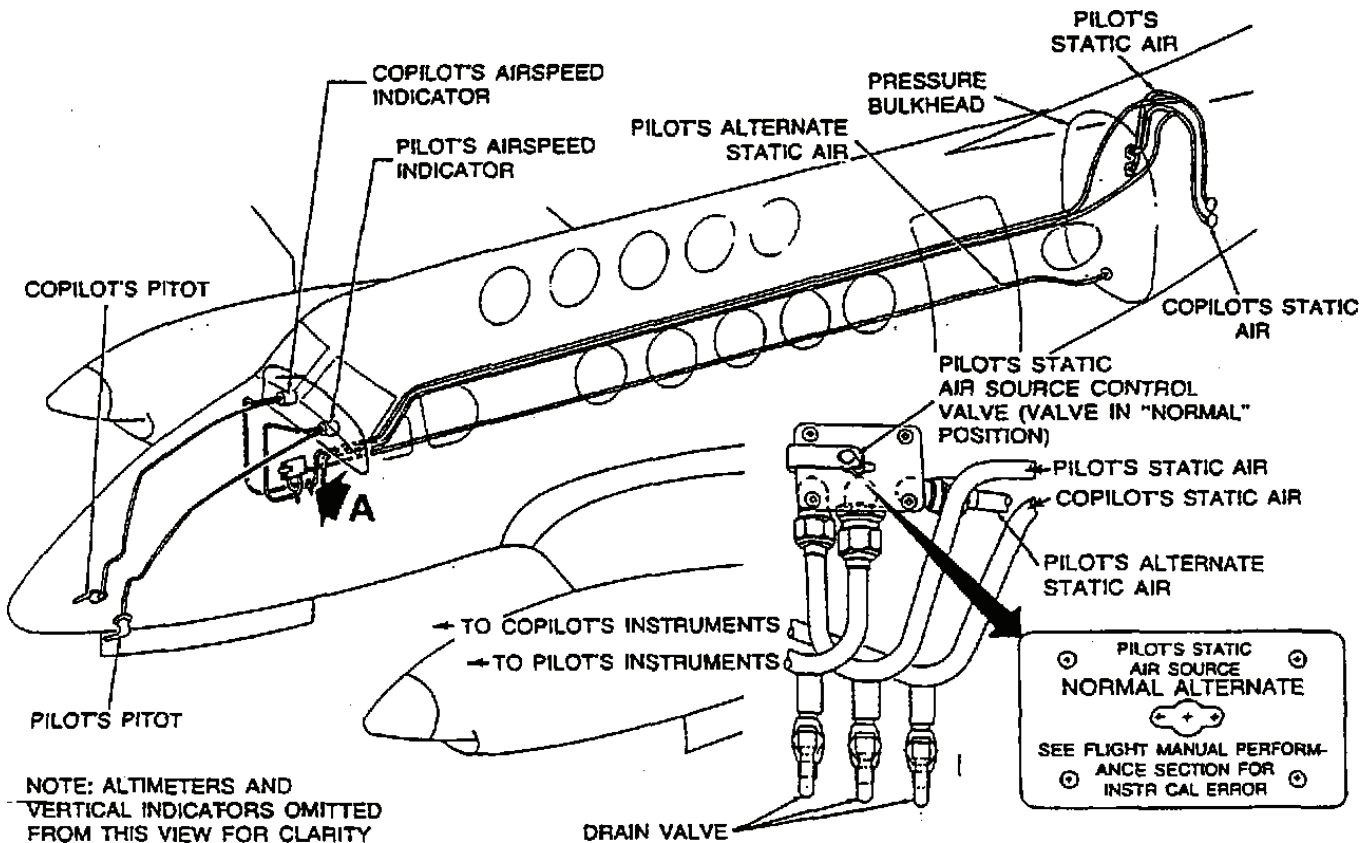

Figure 2-33. Pitot and Static System
a. **Pitot System R.** The pitot system, illustrated in Figure 2-33, provides ram air pressure for the airspeed indicators and air data computer. The pitot system consists of two pitot masts (one located on each side of the lower portion of the nose), and associated plumbing. The pitot masts are protected from ice formation by internal electric heating elements.
a. Description. The static system, Figure 2-33, provides static air pressure for the pilot's and copilot's airspeed indicators, copilot's altimeter air data computer, and pilot's and copilot's vertical speed indicators. The static air pressure ports are located on the right and left sides of the aft fuselage exterior skin.